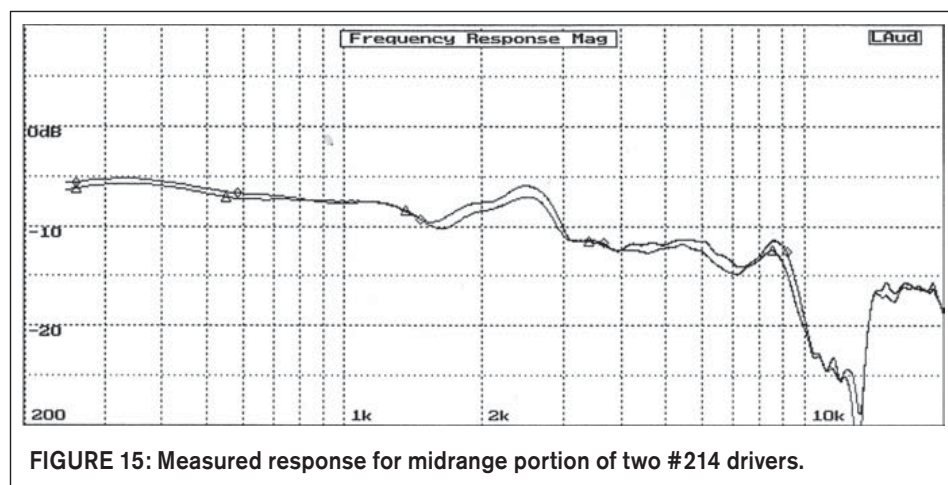
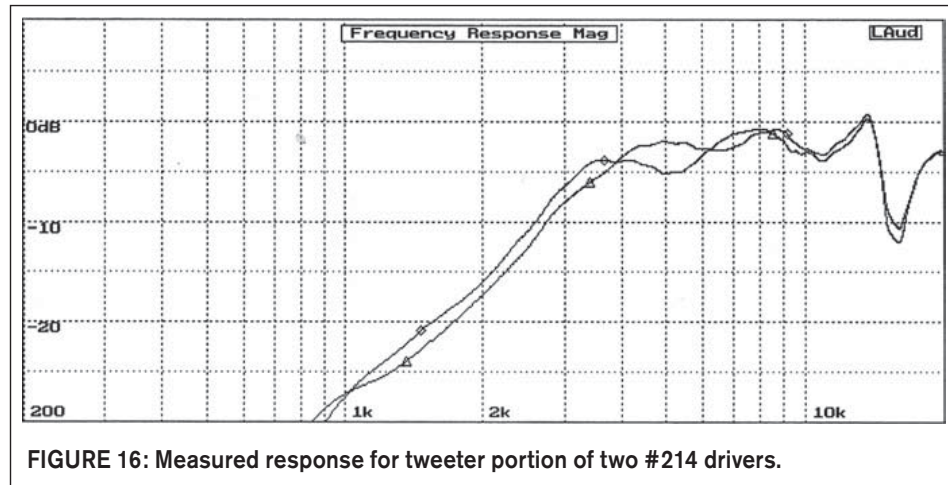

FIGURE 15: Measured response for midrange portion of two #214 drivers.
FIGURE 16: Measured response for tweeter portion of two #214 drivers.
**Figure 15** shows measured midrange-portion responses, and **Fig. 16** the tweeter-portion responses for my pair of #214 drivers. It is clear that the tweeter portions do not match well, and there is very little range of overlapping-frequency response between the two portions. **Figures 17** and **18** show the off-axis responses for the midrange and tweeter portions, respectively.